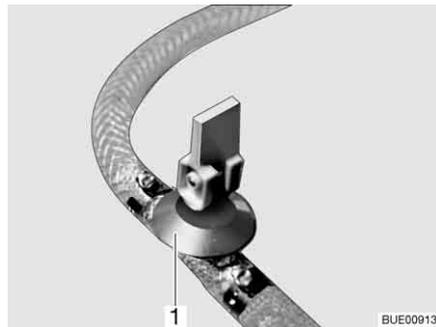

Fig. 151 Drain cock
- Close the drain cock(s). Position the rocking lever (Fig. 151,1) horizontally.
- Open drain cock(s) (Fig. 151). To do so, set the rocking lever (Fig. 151,1) in a vertical position. The boiler is drained to the outside.